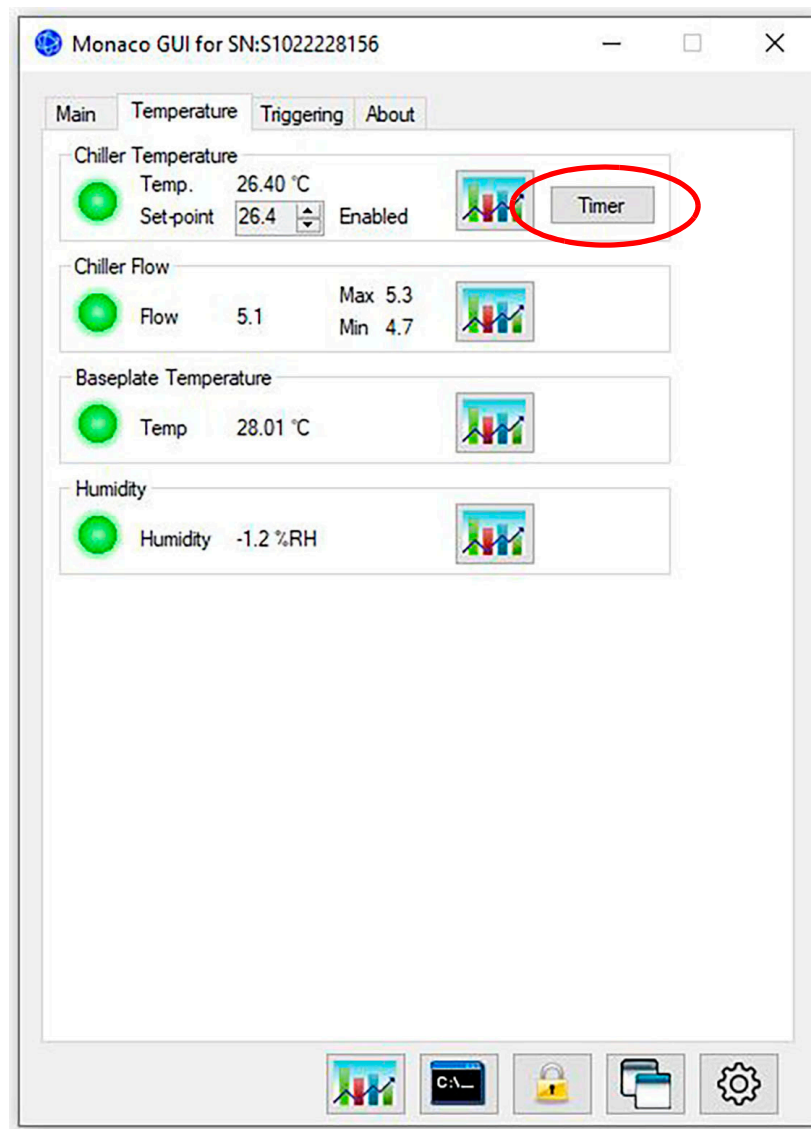

Figure I-1. Chiller Coolant Warning Timer
3. The chiller coolant and filter must be changed every six months. A warning message will be given when the service period is reached. After the coolant and filter have been changed, the warning can be removed by clicking on the "Timer" button on the Temperature tab of the GUI (see Figure I-1), or enter the serial command CHSERVICED=1.